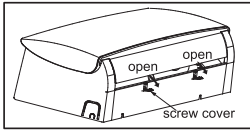
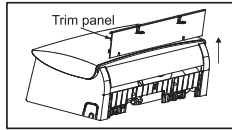

Fig. 8
Fig. 9
- 2) Open the screw cover as shown in Fig. 8 and remove the trim panel as shown in Fig. 9.